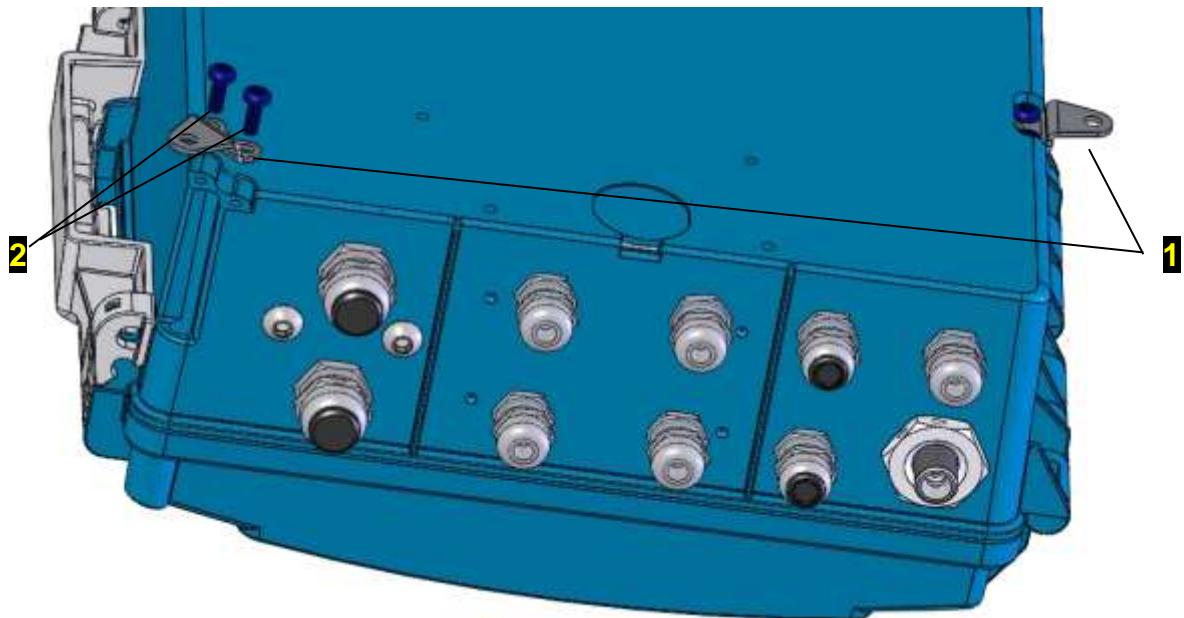
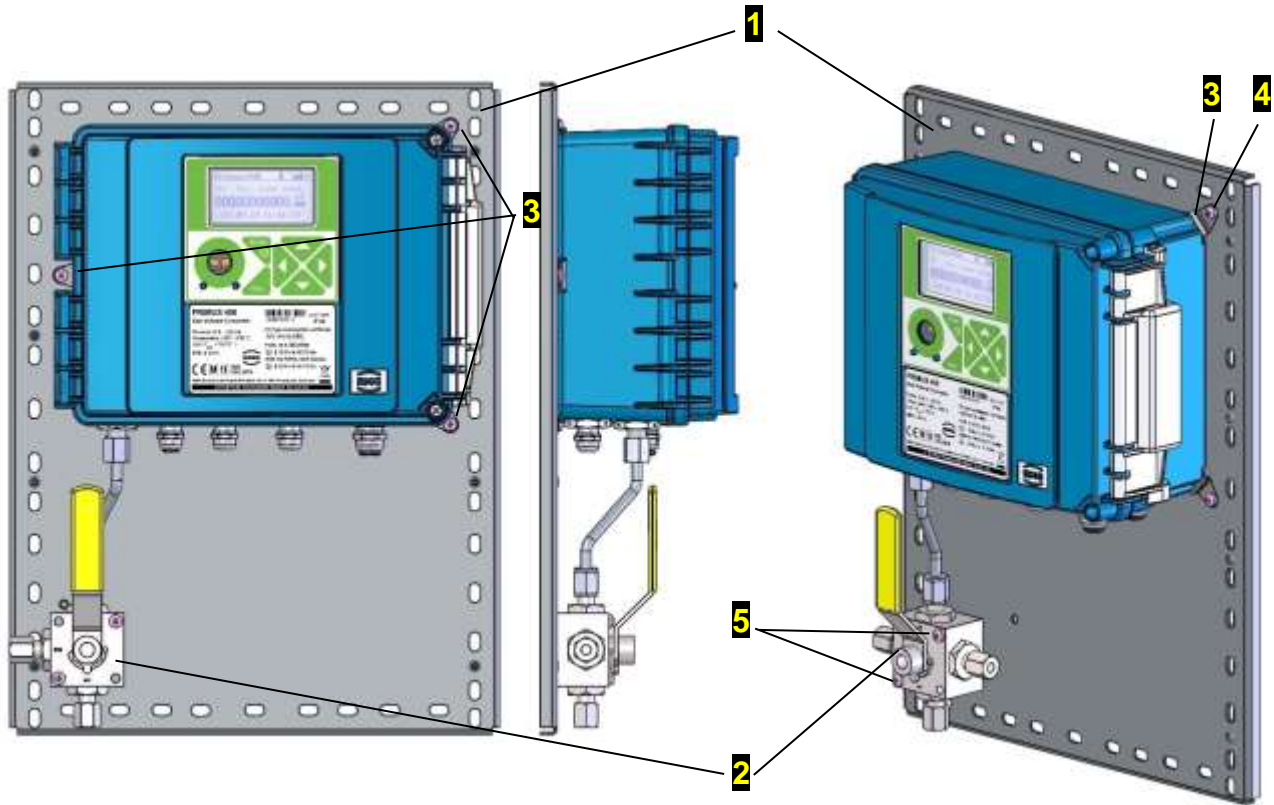

Fig. 4: Mounting the brackets on the device
Fig. 5: Mounting Prilog 400 on a mounting plate
1. Before attaching the device to the mounting plate, first fit 3 pcs of brackets 1 using 3.5x12 self-tapping screws for plastic 2 supplied with the device onto the bottom side of the device (see Fig. 4).
2. Attach the device fitted with brackets 3 to the mounting plate using 3 screws M4x10 ISO 7045 4 (Fig. 4, Fig. 5). The M4 rivet nuts are pre-fitted on the mounting plate.